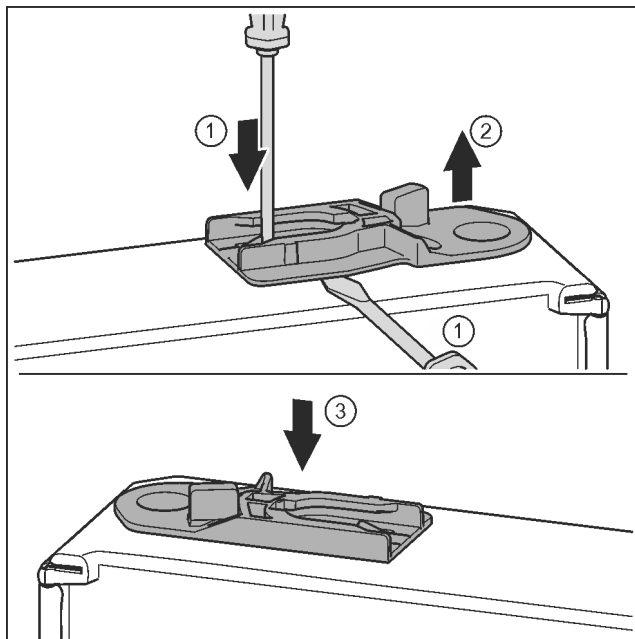

Fig. 35 \*
- ▶ Pull out the guide bush: Press the tab with a slotted screwdriver and, at the same time, insert the slotted screwdriver under the guide bush. Fig. 35 (1, 2) \*
- ▶ Slide the guide bush included in the scope of supply to the other side of the housing. Fig. 35 (3) \*